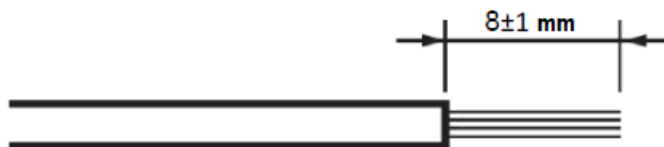

Figure 11
1. Remove the insulation as shown in Figure 11.